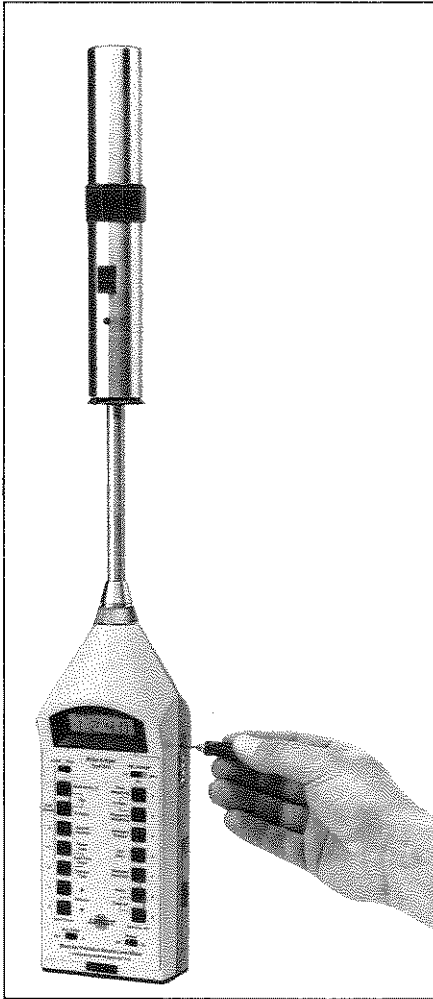

Fig. 2.10. Calibration with Pistonphone Type 4228
7. Use the supplied Screwdriver QA 0001 to adjust the **Sens. Adj.** potentiometer on the side of the sound level meter (see Fig. 2.10) until the display shows a value of **124.0 dB**. This is the nominal level. The actual level depends on the surrounding environmental conditions*.